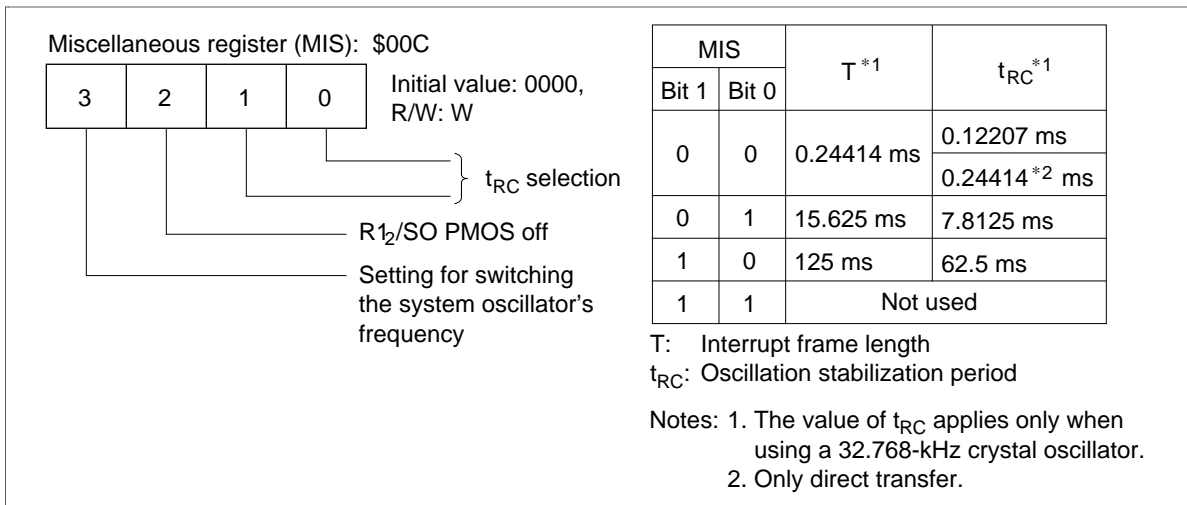

Figure 14 Miscellaneous Register
**Interrupt Frame:** In watch and subactive modes, timer A and  $\overline{\text{INT}}_0$  interrupts are generated in synchronism with the interrupt frame. Three interrupt frame lengths (T) can be selected by the settings of the miscellaneous register, as shown in figure 14.